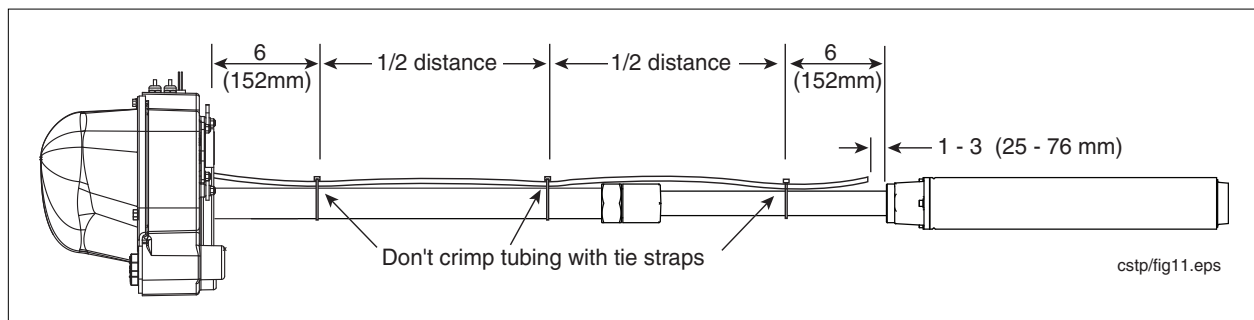

Figure 11. Attaching Return Line Tubing To Pump
12. Secure the siphon return line tubing to the column pipe with tie straps. Locate the tie straps approximately 6 inches (152 mm) from manifold, 6 inches from discharge head, and in the middle of the tubing (see Figure 11).